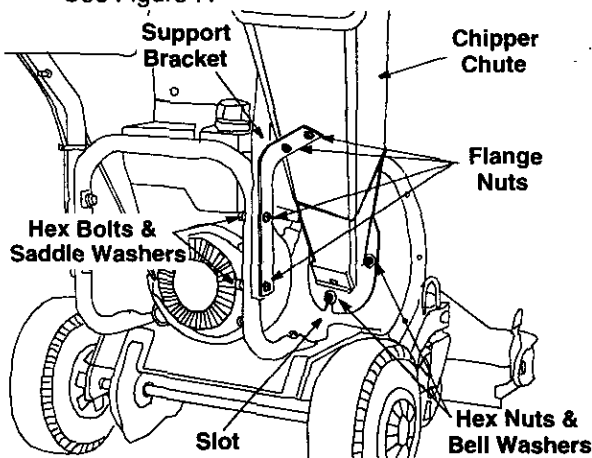

Figure 7
- Place the chipper chute over the weld studs keeping the slotted side towards the bottom. Loosely secure with the three hex nuts and bell washers that were removed earlier. Do not fully tighten the hex nuts at this point in the assembly. See Figure 7.
- Replace the hex bolts, saddle washers and flange nuts to affix the support bracket to the handle assemblies. See Figure 7.